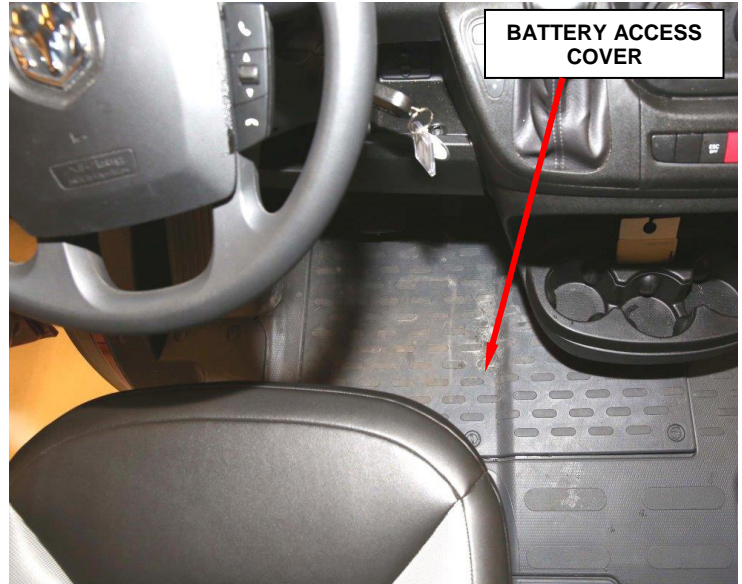

Figure 18 – Battery Access Panel
1. Remove and save the battery access panel located on the passenger compartment floor (Figure 18).